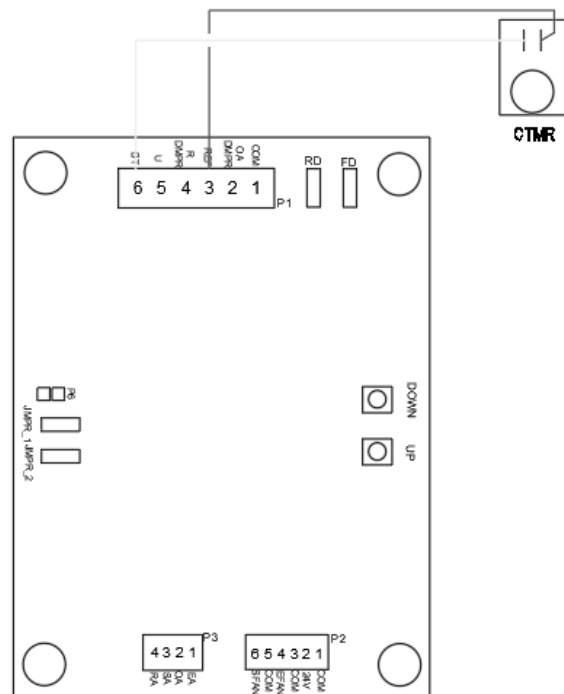

FIGURE 27 - Version 1 (Egg Timer/Analog Connection)
4. Connect the LOAD side of the timer switch to the BT terminal wire on the P1 terminal of the ERV Controller [See **FIGURE 27 - Version 1 (Egg Timer/Analog Connection)**].